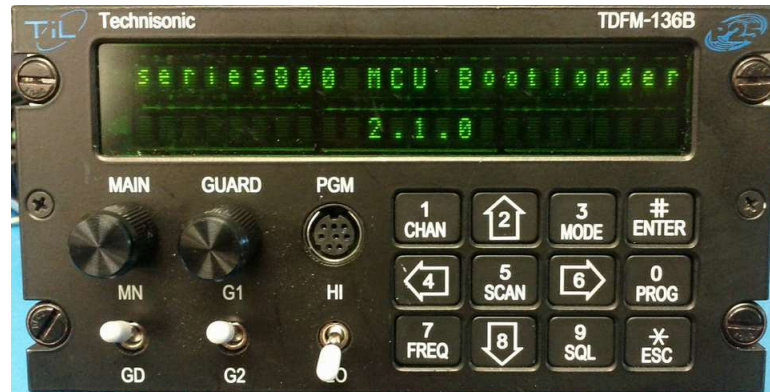

FIGURE 11: Bootloading Mode Display
- c) On Tera Term select File>TRANSFER FILE>YMODEM>Send. See Figure 11
- c) The unit will display the bootloading mode message. See Figure 11.